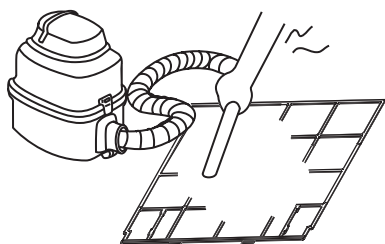

Fig.6-2
- The air-in side should face up when using vacuum cleaner. (Refer to Fig 6-2)